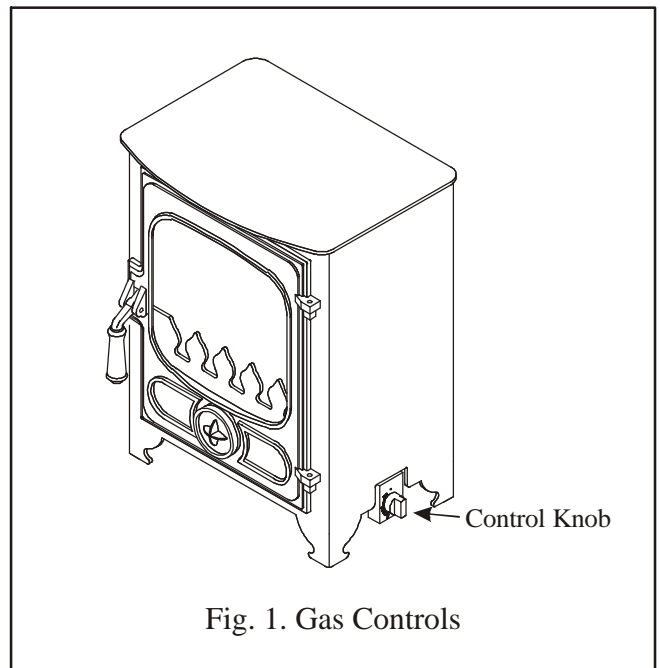

Fig. 1. Gas Controls
2. Between the front and rear legs on the right hand side of the stove you will find the burner control knob, as shown in Fig. 1.